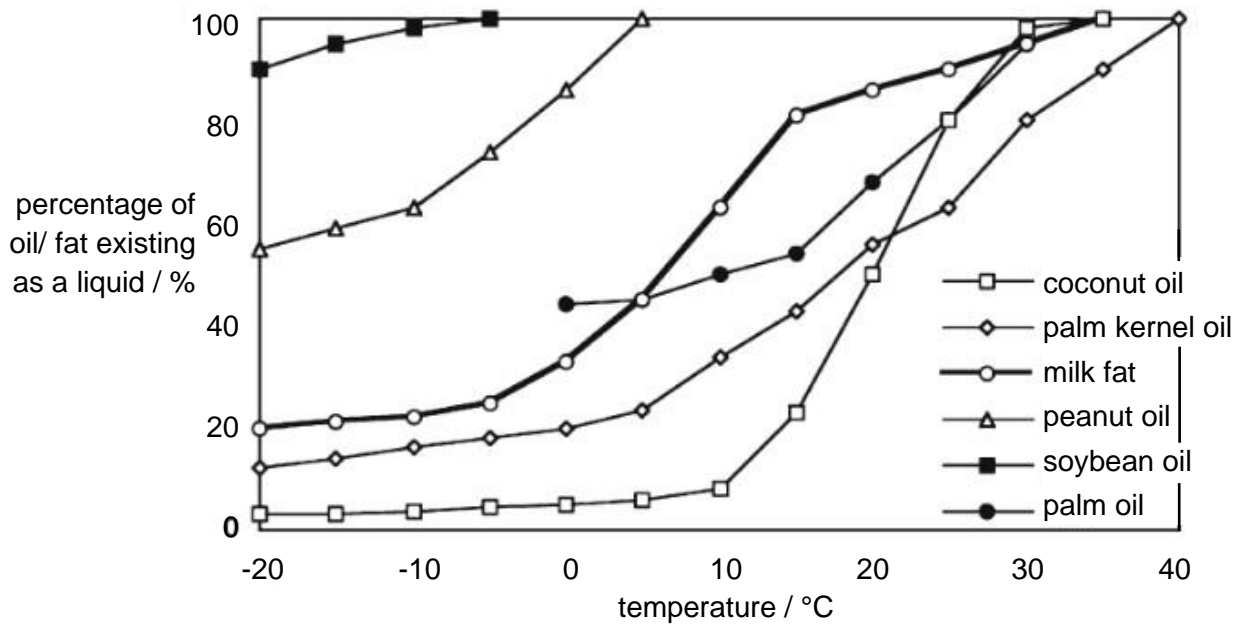

Fig. 8.2
Fig. 8.2 is a liquid fat curve which shows the percentage of oil or fat that exists as a liquid at the respective temperatures.
- (d) With reference to Fig 8.2, suggest and explain which oil is most suitable as a substitute for milk fats to make dairy products such as ice cream.
- (e) With reference to Fig 8.2, suggest and explain which vegetable oil would be more suitable for use in cosmetics.